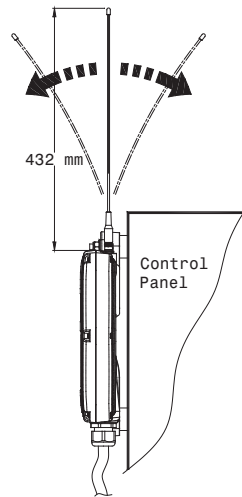

Fig. 24
3. Ensure the selected location has adequate space to accommodate the receiver. If an external antenna is used, always locate the receiver where the antenna is free from any obstacles from all directions to avoid the possibility of antenna damage (*see Fig. 24*).